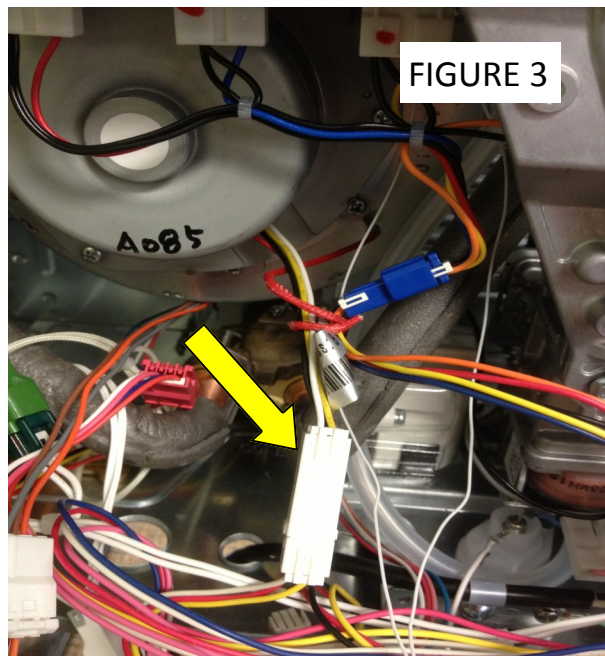

FIGURE 3
7. Disconnect the wire harness at the fan motor assembly. (FIGURE 3)